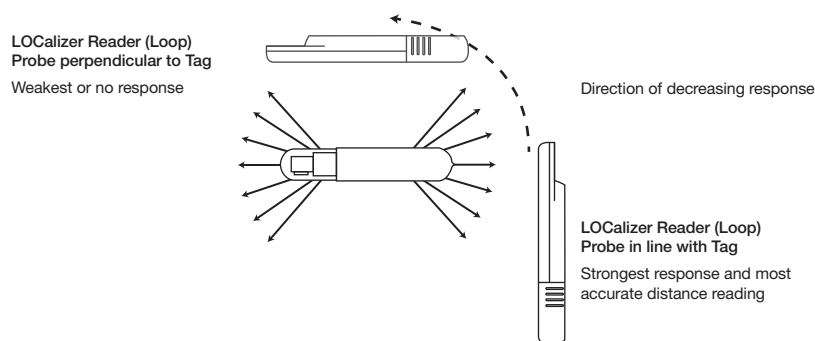

Figure 3. Assessing Tag location/position with Loop Probe using signal strength (not to scale)
* As measured from center of the Loop probe to end of Tag (*Figure 3*)
NOTE: The sound and distance display rise to a maximum when the Tag is in line with and directly under the sensing head surface (*Figure 3*). Identification of the Tag location can be refined by moving the Probe until both ends of the Tag are detected.